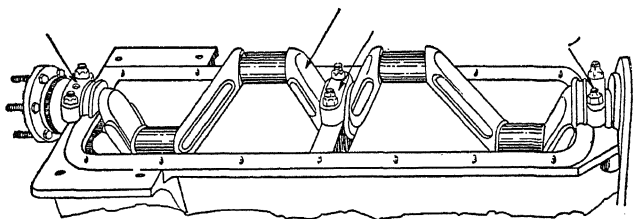

Fig. 10. When Removing Crankshaft, the First Step Is to Remove the Main Bearing Caps Indicated by Arrows
**Removing Crankshaft.** When removing the crankshaft, it is necessary to remove the locking wires or cotter keys from the main bearing studs, after which the castellated nuts may be turned off by means of a speed or socket wrench, Fig. 10. Note whether the bearings are marked to identify them. Mark, if necessary. By no means should an end wrench be used on these nuts as the nuts will